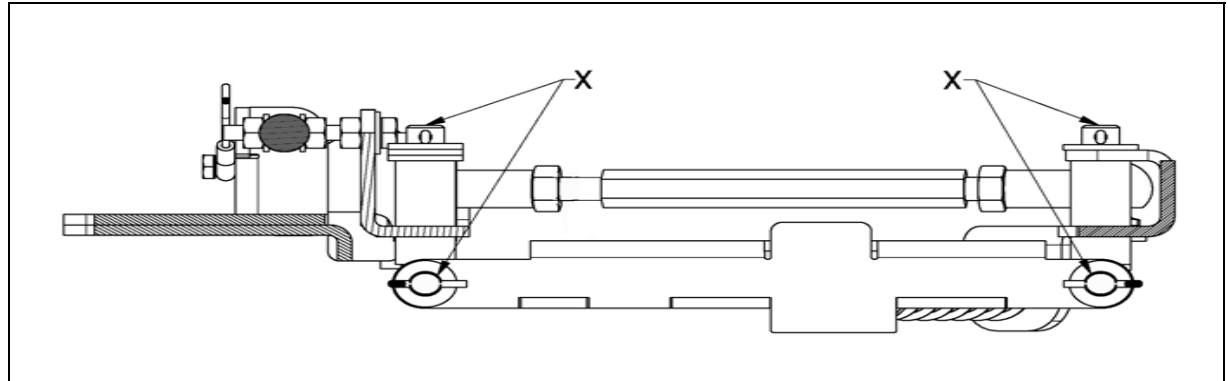

Fig.21
- Rear squeegee caster axle (2)
- Squeegee lift mechanism joints and pivot points (Fig. 21/X)